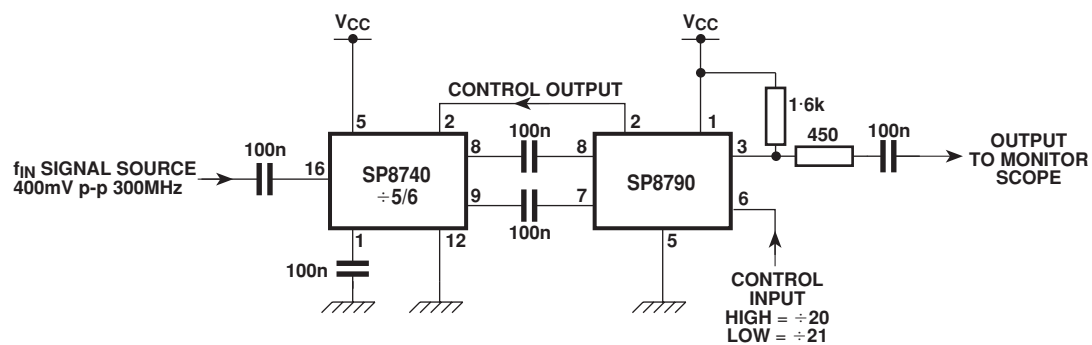

Fig. 4 Test circuit
1. The test configuration for dynamic testing is shown in Fig.4.
1. The device will normally be driven by capacitively coupling the inputs to the outputs of a 2-modulus divider, as shown in Figs. 4 and 5. The maximum frequency of the device when used as a controller is limited by the internal delays to 60MHz. However, when used as a $\div 4$ prescaler, it will operate at frequencies in excess of 80MHz, the maximum frequency being limited by saturation of the output stage.
6. The control output, which includes an internal 16k Ω pull-down resistor, is ECL compatible and will interface directly to ECL 2-modulus dividers such as the GPS SP8600 and SP8700 series as shown in Figs. 4 and 5.